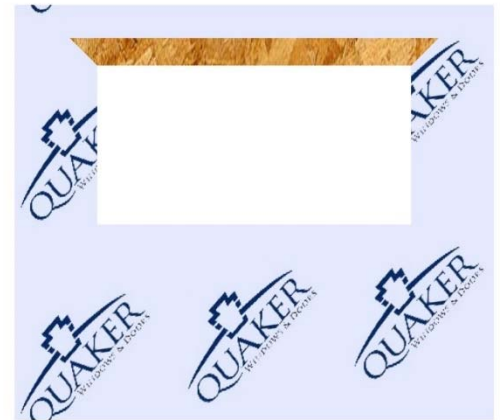

Fig. 1
- A. The opening should be prepared per Quakers standard nail fin installations guides. (Fig. 1)